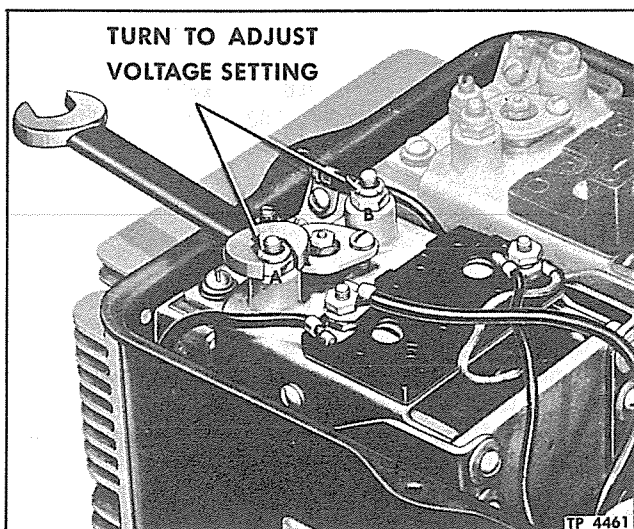

Figure 19—Adjustment of Voltage Regulator Setting
5. Slowly loosen voltage adjusting nut "A" on voltage regulator (fig. 19). As nut is loosened, generator voltage will fall. Loosen only until voltage stops falling. Further loosening may allow spring to become unhooked, requiring complete disassembly to reinstall.
4. Slowly loosen current adjusting nut "A" on current regulator (fig.19). As nut is loosened generator output will fall. Loosen only until output stops falling. Further loosening may disconnect tension spring from adjusting screw, thereby necessitating complete disassembly of unit.